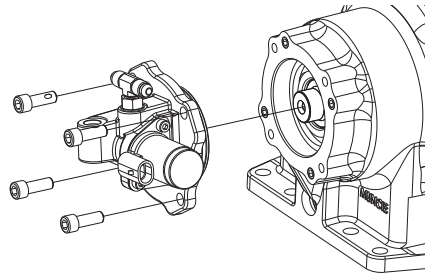

Figure 1 – Bearing Cover Removal
1. Remove the input gear (32) by removing the set screw (34) in the mounting pad and driving the input shaft (31) from the housing (38).
2. Next remove the bearing cover (51) by removing the hose assembly (40) from the tee fitting (47) using a 9/16" wrench.
3. Remove the four socket capscrews (50) from the bearing cover (51) using a 5/16" Allen wrench. Remove the bearing cover from the PTO housing. *See Figure 1*